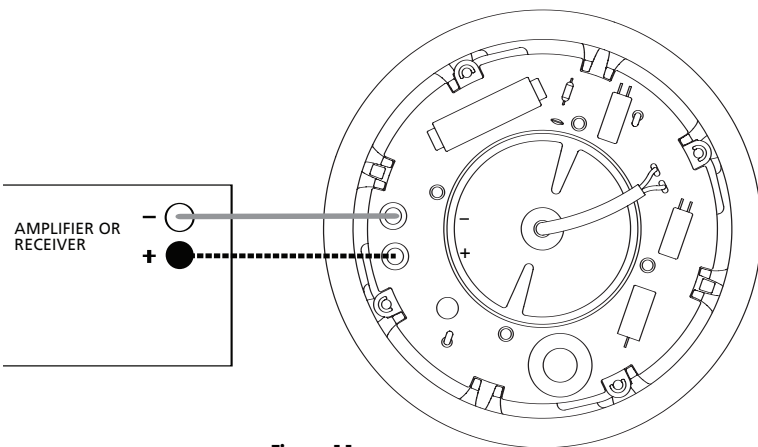
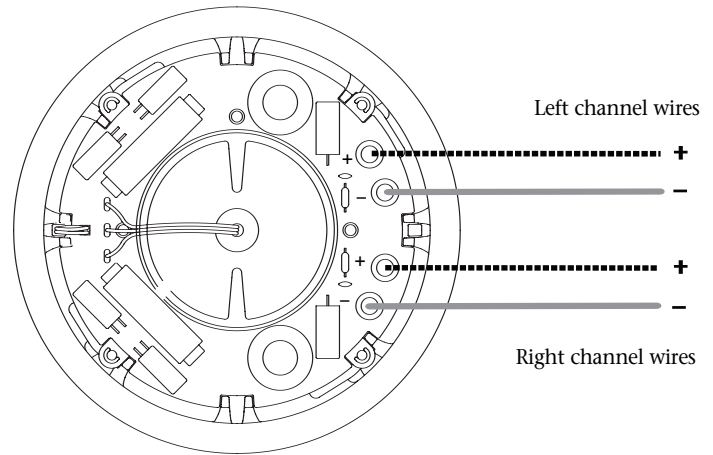

Figure 11a
Figure 11b
- Once you have cut the hole, pull the speaker wire out of the hole and connect the speaker. Strip 1/2" inch (12 mm) of insulation from each of the two conductors of the wire to expose the bare metal and twist each of the conductors into a single unfrayed strand. Note that one of the terminals on the rear of each speaker is marked red (+) and the other black (-). Make certain that you connect the wire from the red terminal (+) of your amplifier or receiver to the red terminal (+) on your speaker and the wire from the black terminal (-) of your amplifier or receiver to the black terminal (-) on your speaker. Most wire has some indicator (such as color-coding, ribbing or writing) on one of the two conductors to help you maintain consistency [Figure 11a]. In the case of the Di 6.5STR single speaker stereo model, both left and right channel speaker wires are connected to the speaker [Figure 11b].